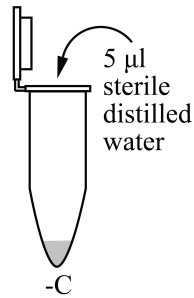
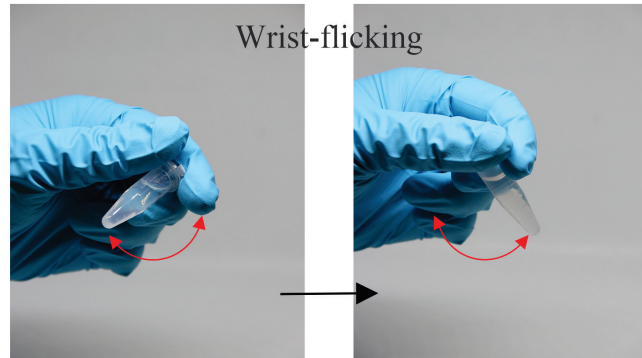

Fig. 9
Fig. 10
10. Using a P20 micropipette and a new sterile tip, add 5 μ l sterile distilled water to tube “-C” (Fig. 9). Wrist-flick the sample to pool the reagents (Fig. 10). **Return tube “-C” to the ice bath.**